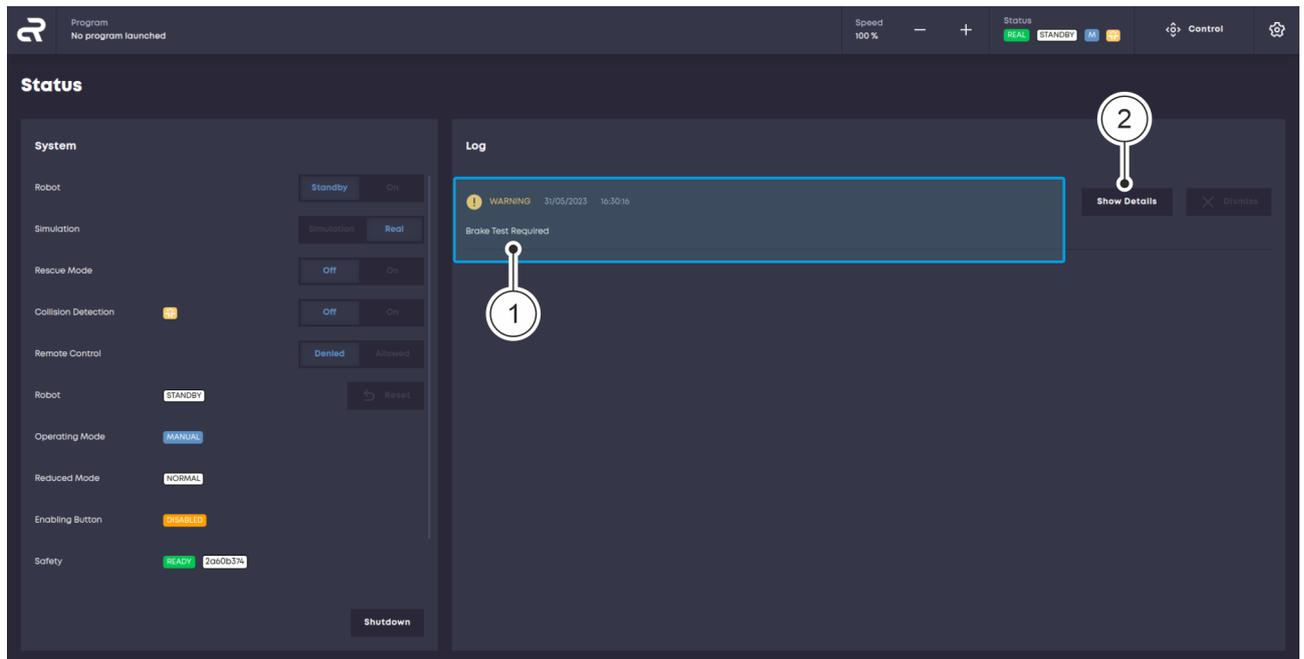
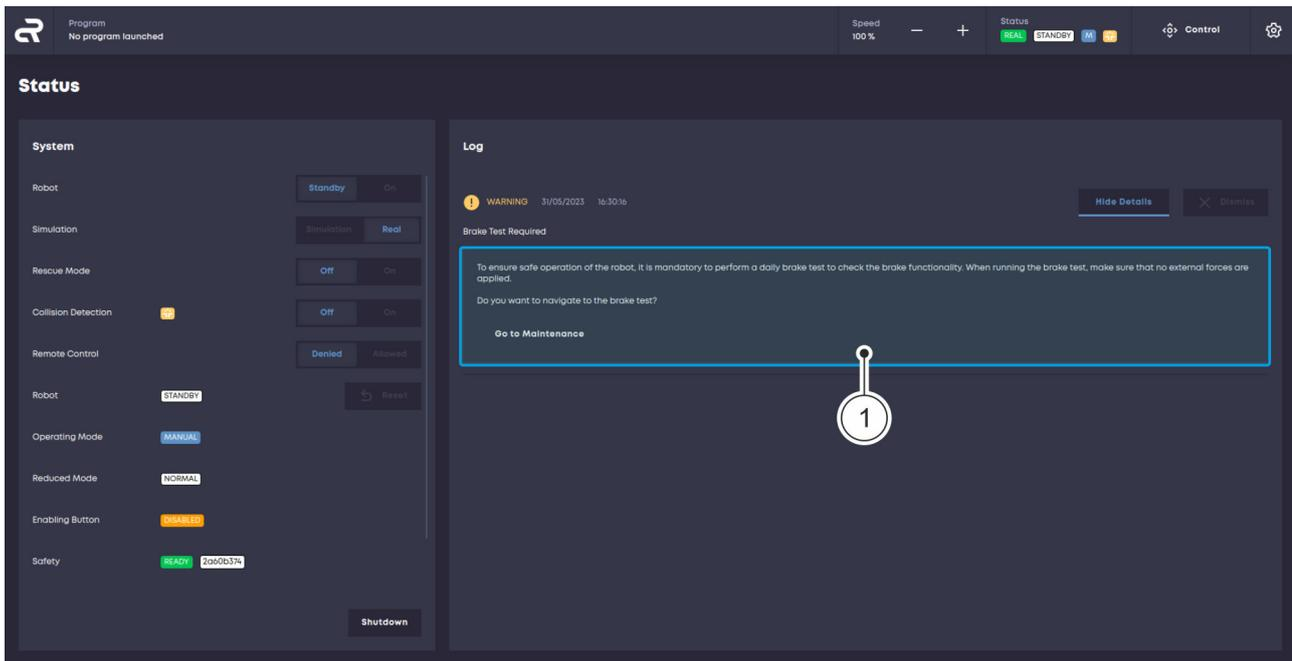

Fig. 64 Viewing the warning message history
Fig. 65 Editing a warning message
- ▶ Warning messages are displayed in the 'Log' menu Fig. 64/①.
02. In the 'Log' menu, click on the 'Show Details' button Fig. 64/② for information on the warning message Fig. 65/①.